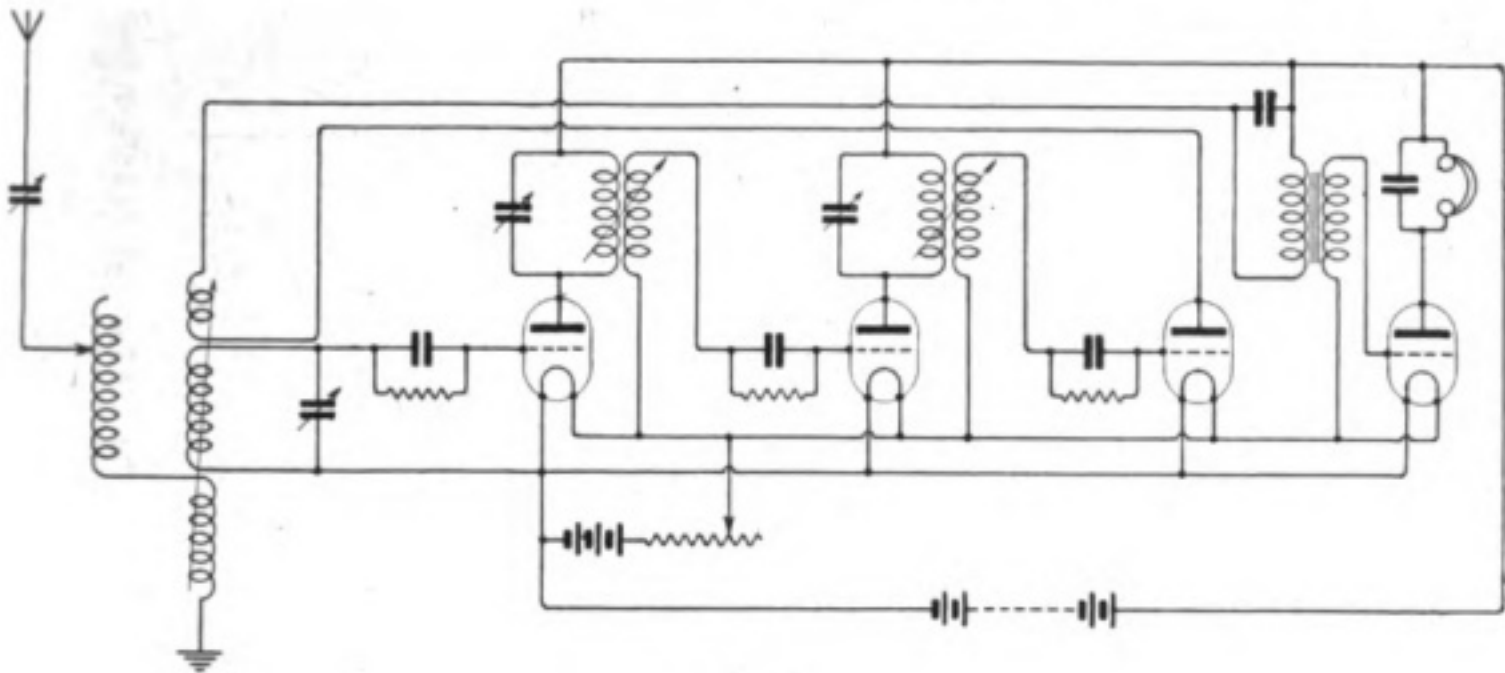

Fig. 4.
(1) PCGG should be obtainable in Suffolk on a single valve set of good type skilfully used. (2) and (3) The type of circuit suggested is quite useless. Your circuit might be on the lines of that shown in Fig. 4, page 372, June 17th.
(1) See diagram, Fig. 4. (2) It is difficult to say without test. You will probably have considerable difficulty, but this is about the best you can do with any ordinary method.